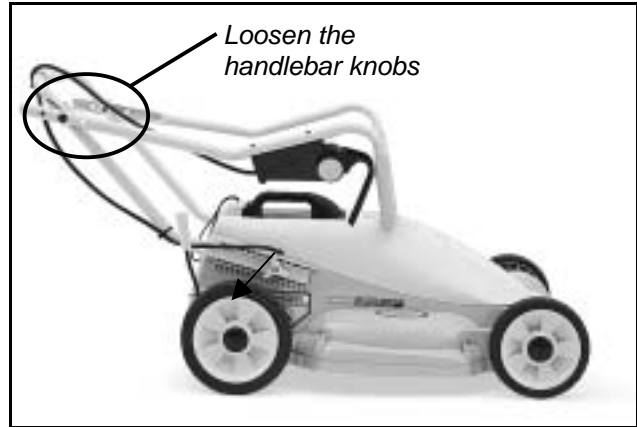

Figure 15
1. The handlebar assembly can be folded in half, or completely folded away for storage. To fold the handlebars in half, loosen the upper handlebar knobs and fold the upper handlebar forward onto the machine (*Figure 15*).